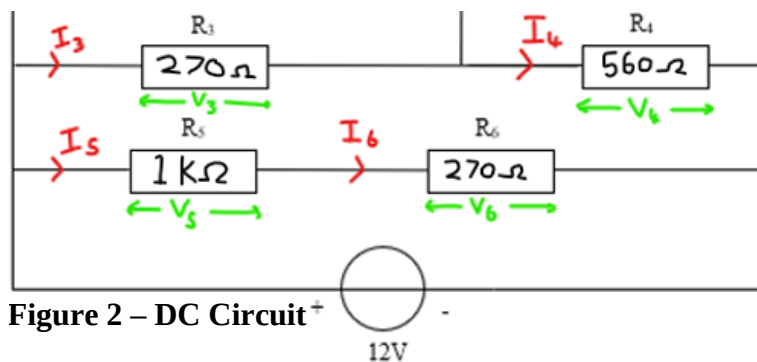

Figure 2 – DC Circuit
Kirchhoff's laws form the foundation of DC circuit principles. His current law states, "The sum of currents entering and leaving a junction is zero," and the voltage law states, "The sum of the electromotive forces (e.m.f) and potential drops in a closed loop is zero." (Issacphysics, 2021) This can be seen throughout. For example, Kirchhoff's current law is seen where $I_4 + I_6 =$ supply current ($9.45 + 15.68 = 25.13\text{mA}$). Next, Kirchhoff's voltage law can be seen where $V_5 + V_6 =$ supply voltage ($9.45 + 2.55 = 12\text{V}$) as seen in figure 2.
2. Figure 2 shows a circuit containing capacitors in series/parallel to a d.c. voltage source.